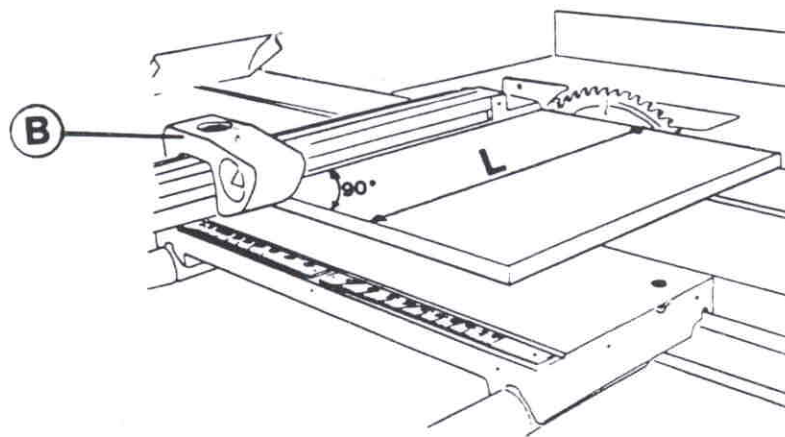

Fig. 35
- Keep the position of stop (B fig.35)
- Move rule (M) until the line corresponding to measure (L fig.35) coincides with the reference line of the lens of stop (B)